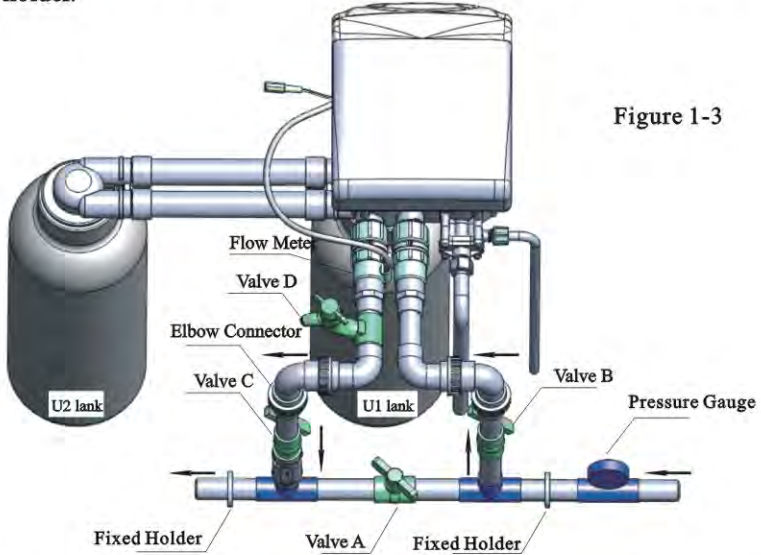

Figure 1-3
④ Pipeline connection
- As Figure 1-3 shows, install a pressure gauge in water inlet.